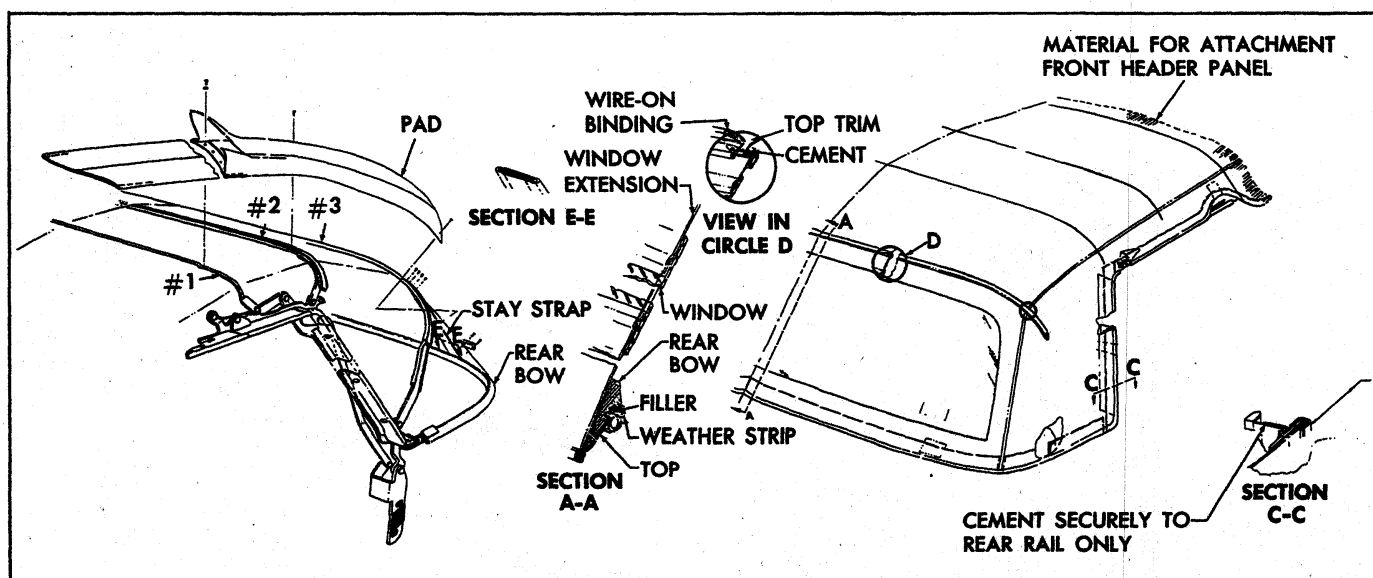
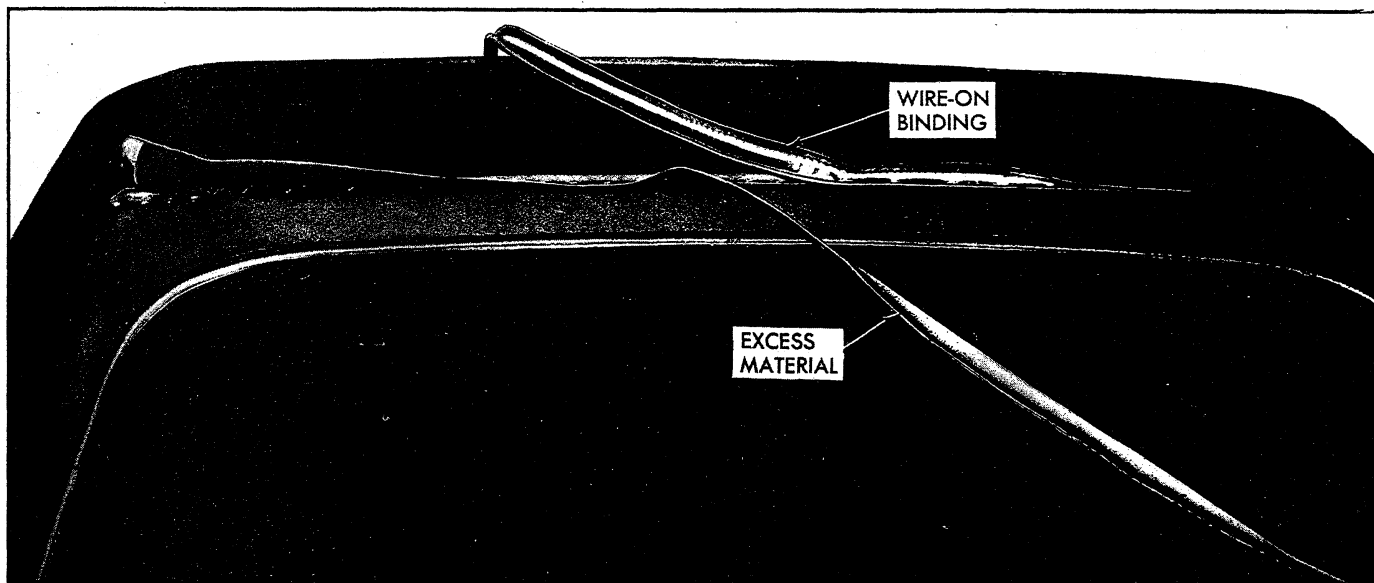

Fig. 102—Folding Top Trim Installation
Fig. 109—Installing Binding
installation of the folding top trim and window assembly complete. Figure 102 may be referred to for parts identifications. Lettered sections (i.e. Section A-A) referred to in the instructions may also be found in Figure 102. Note that the sections are illustrated as they would
7. Draw window extension up to #3 bow, aligning centering marks. Turn an ample amount of fabric under and tack to #3 bow. Apply neoprene trim cement, GM Part #3695016 or equivalent, to area shown in View D of Figure 102. Follow directions on package.
9. Trim off excess material and install wire-on binding as shown in Figure 109 and View D of Figure 102. Install binding caps.